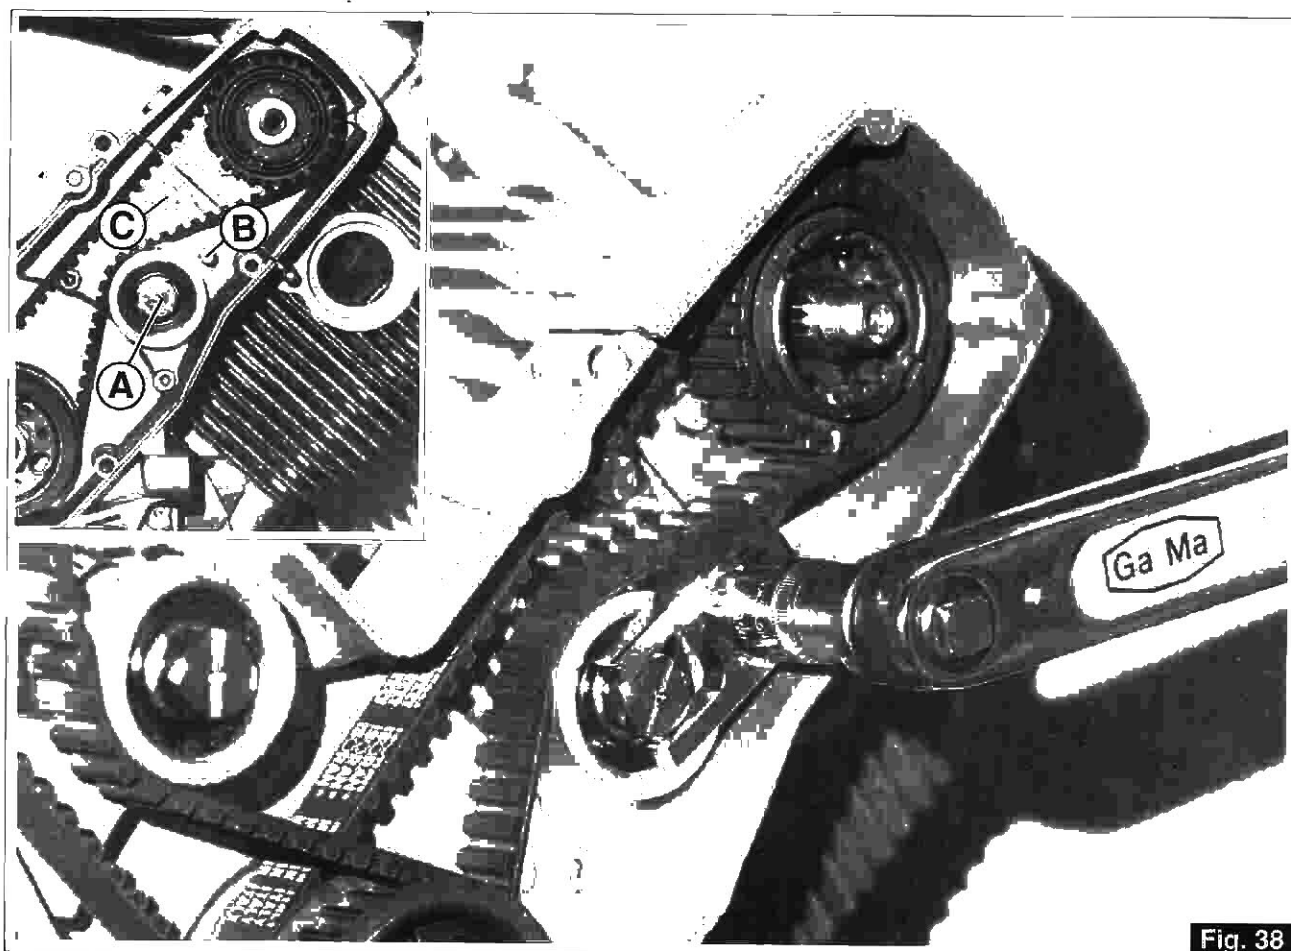

Fig. 38
N.B. - The belts must always be stretched with the piston in the TDC position, in the combustion phase (closed valve) or with the upper cam shaft drive pulley without inner gears as shown in figure 38.